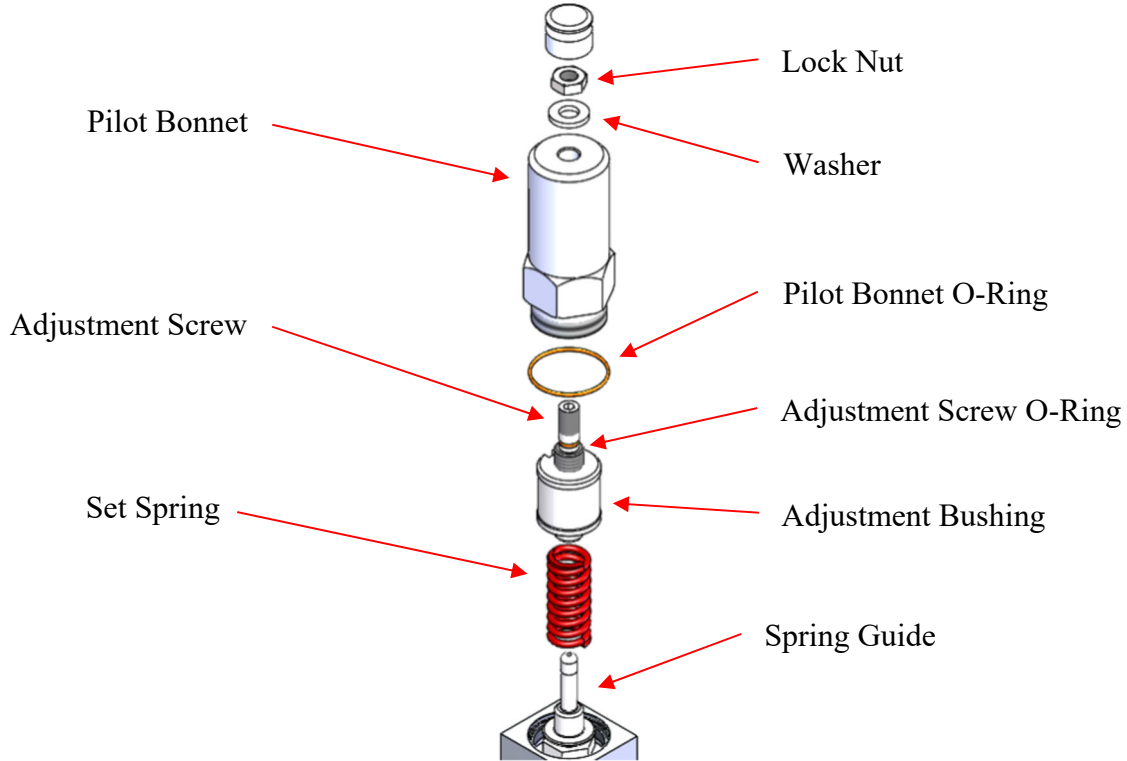

Figure 26: Internal Components of Pilot Bonnet
- 12. Remove the o-ring from the adjustment screw. See Figure 26.